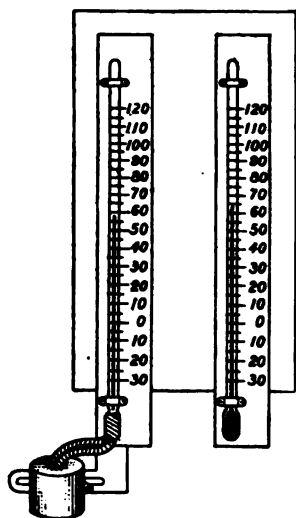

FIG. 149.—Wet and dry bulb hygrometer.
*hygrometer*. There are various forms. The *wet and dry bulb hygrometer* is shown in Fig. 149. This device consists of two thermometers, one with its bulb dry and exposed to the air, the other bulb being kept continually moist by a wick dipping into a vessel of water. An application of the principle of cooling by evaporation is made in this instrument. Unless the air is saturated so